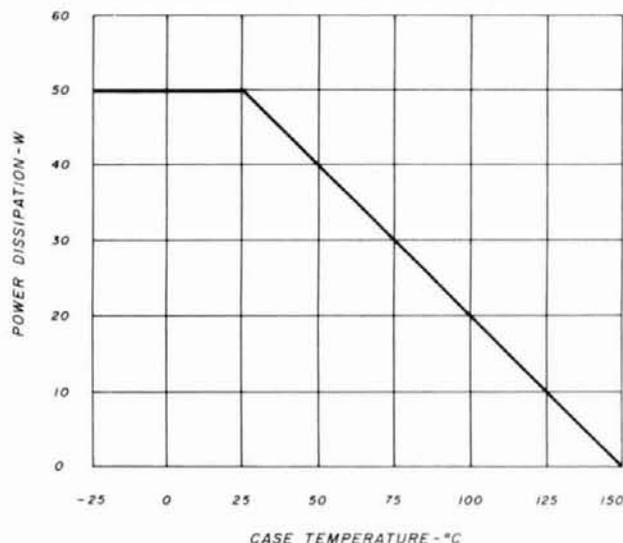

fig. 4. Graph of the maximum power dissipation for different case temperatures.
This series of regulators is rated for 50 watts of internal power dissipation at a case temperature of  $25^\circ\text{C}$ . Increased case temperature, of course, reduces this rating. A graph of maximum power dissipation versus case temperature is shown in fig. 4.
When I first installed the readout in my Ham-3, the display was rock stable until the brake release switch was pressed. As **fig. 4** shows, a large amount of brake and motor ac current flows through the common ground connection, causing the display to jump wildly. The problem was solved by placing C2, a 100- $\mu$ F electrolytic capacitor, across the inputs to the AD2020. This capacitance represents a low impedance to 60 Hz ac and reduces the effects of the ground currents to less than 1 count. In some cases, rf bypassing might also be required. A .001- $\mu$ F ceramic capacitor should provide adequate rf filtering.
**fig. 4.** Equivalent circuit diagram of the control box used to illustrate the ac ground loop problem. The ac current flowing through the cable resistance causes a large ac voltage to be added to the direction indicating voltage at pin 1. Filtering across the 2.49k resistor is more effective, since a capacitor across terminals 1 and 7 is effectively shorted out when the pot reaches either extreme of its travel.